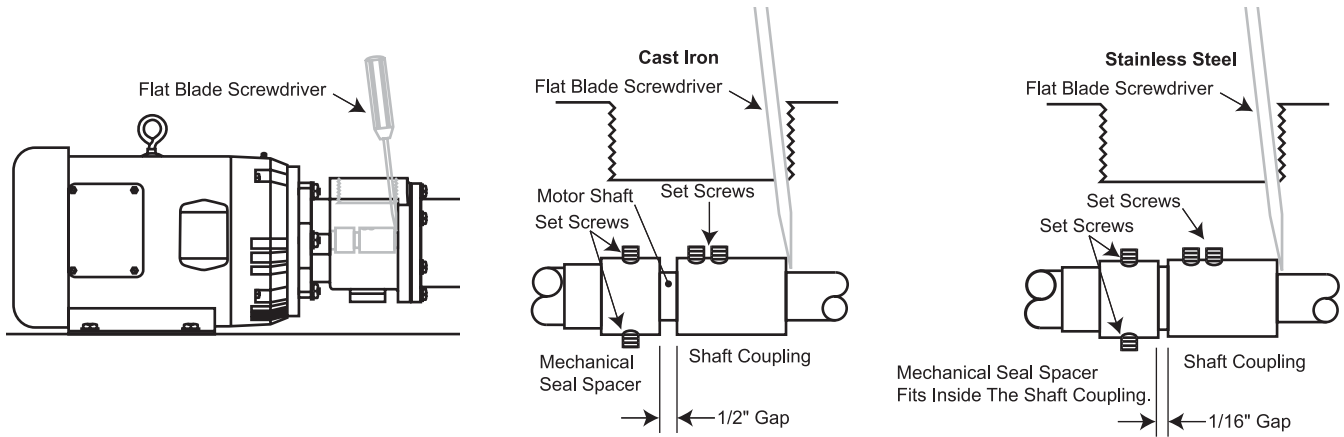

Figure 4
4. Tighten the flange ring on the pump housing to the motor bracket using four (4) 3/8 - 16 x 1 1/4 hex head bolts and lockwashers. Cross tighten the bolts evenly until the flange on the pump housing butts against the motor bracket.
5. Insert a flat blade screwdriver thru the suction inlet of the motor bracket and place it adjacent to the shaft coupling. (See Figure 4) Then, apply a prying force against the pump shaft coupling until the motor shaft butts against the pump shaft inside the shaft coupling. A "metallic thud" will be heard when contact is made. Now, tighten the two set screws securely.
11. Align the motor bracket with the rabbet fit and the four threaded studs on the motor adapter plate. Gently, position the motor bracket against the motor adapter plate. Do not pinch, nick, or damage the o-ring during installation. Secure with four (4) 3/8 -16 nuts and lockwashers.
13. Before tightening the set screws in the pump shaft coupling, move the pump shaft coupling as close to the motor as possible by prying against it. (See Figure 4, Page 7) This movement will cause the motor shaft to make contact with the pump shaft inside the pump shaft coupling.